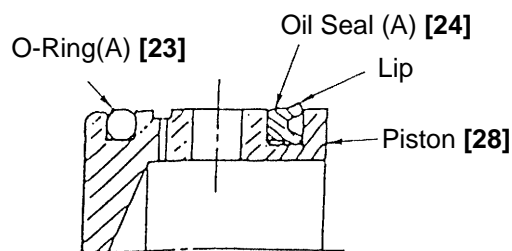

Fig. 18
- Mounting of Oil Seal (A) [24]
When mounting Oil Seal (A) [24] on the Piston [28], ensure that the lip portion of the Oil Seal is directed toward the rear surface of the Piston, as illustrated in Fig. 18. Prior to reassembly, thoroughly coat Oil Seal (A) [24] and O-Ring (A) [23] with grease (Grease for Impact Drill, Part No. 980927 or 981840 or 308471 is recommended), and carefully ensure they are not damaged.